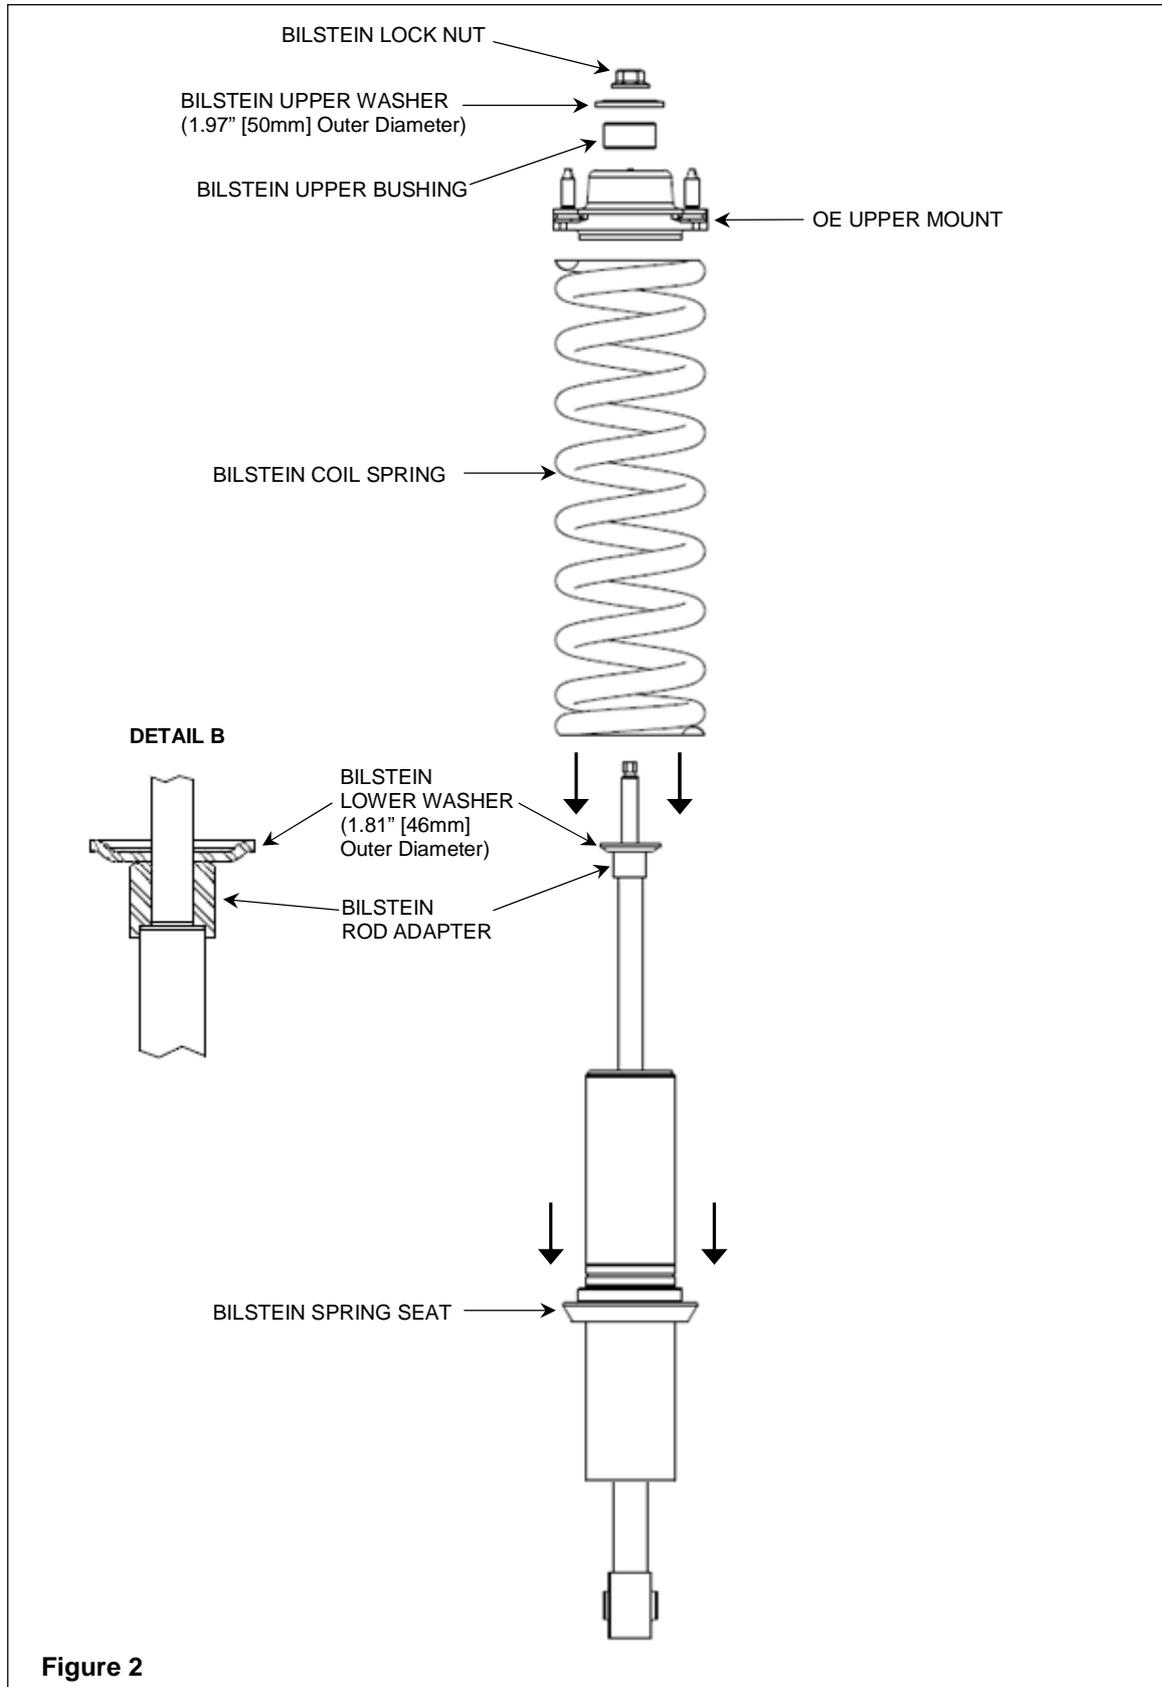

Figure 2
- F.** Install the supplied rod adapter (counter bore side down) onto the stem of the rod as shown. Ensure that the rod adapter is oriented correctly (see Figure 2 Detail B).
- G.** Install the supplied lower washer (concave side up) onto the stem of the rod as shown. Ensure that the lower washer is oriented correctly (see Figure 2 Detail B).
- H.** Using an appropriate spring compressor, compress the supplied coil spring and assemble it with the new Bilstein shock. Refer to Figure 2 for the order of the remaining components.
- J.** Install the supplied upper bushing and supplied upper washer (concave side down) onto the stem of the rod as shown. Ensure that the upper washer is oriented correctly (see Figure 2).